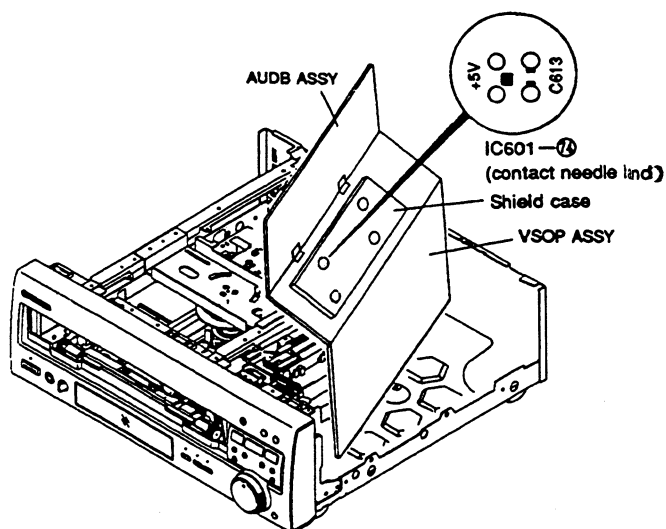

Fig. 4
- As shown in Fig. 4, fit VSOP assy into PCB holder on the chassis and by standing it against the inside of the chassis, the back side of the board (pattern side) can be diagnosed.
When carrying out 1.6.5 Electrical adjustment "3. master clock adjustment", the frequency of IC601 - ⑭ can be measured with the contact needle land that can be seen through the hole in the shield case in Fig. 4.